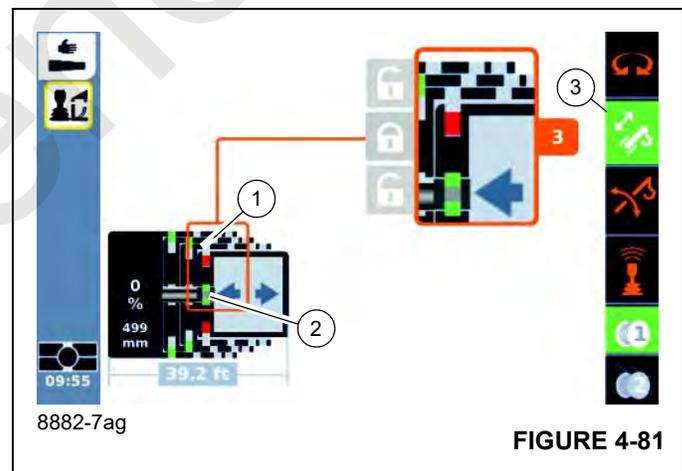

FIGURE 4-81
- Refer to (Figure 4-81).
- Telescoping mechanism ON – symbol (3), (Figure 4-81) green.
- Telescoping cylinder locked – symbol (2) green.
- Telescopic section unlocked – symbol (1) red.